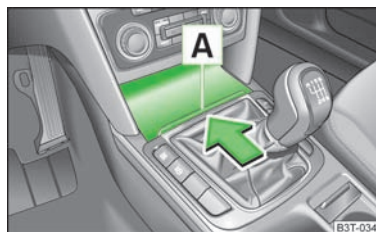

Fig. 91
- Open the ashtray » Fig. 91.
- Press on the bottom part of the storage compartment in the area **A** » Fig. 91 in the direction of the arrow, and the lid folds in.